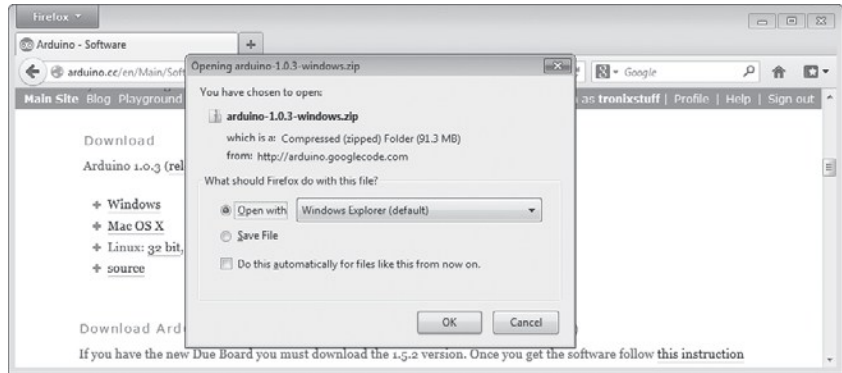
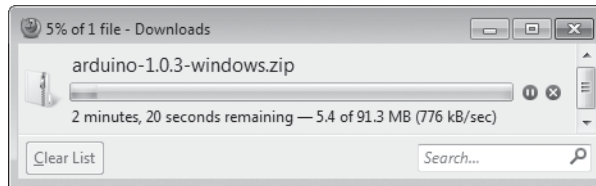

Figure 1-16: Downloading the file
Figure 1-17: Firefox shows the progress of your download.
2. Click the **Windows** link, and the dialog shown in Figure 1-16 will appear. Select **Open with Windows Explorer**, and then click **OK**. The file will start to download, as shown in Figure 1-17.